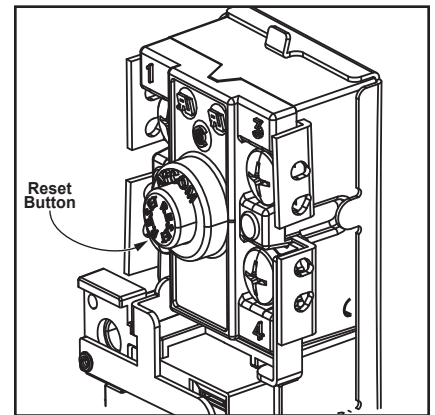

Figure 27 - Energy Cut Off (ECO) button
- Press the red ECO reset button. See Figure 27.